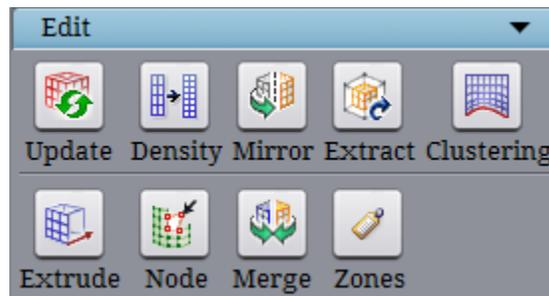

Figure 5.46: Edit section
**Zones** is located under **Edit** section of the **Grid** tab as shown in Edit section Figure 5.46. Using this, you can now set the volume property with a click of a button. Based on the given grid sheets, it splits the grid blocks internally and set a default boundary condition to each piece. These default boundary conditions can be renamed later using the Solver section in the property tab as explained in section 6.2.